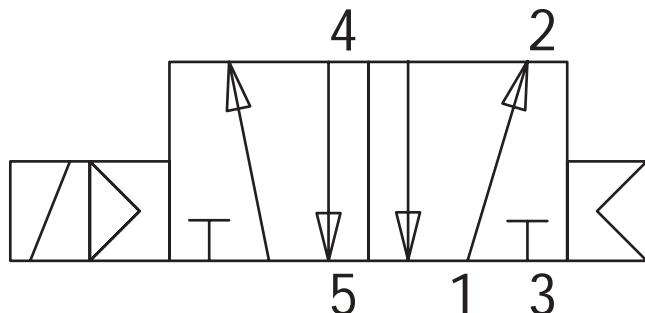
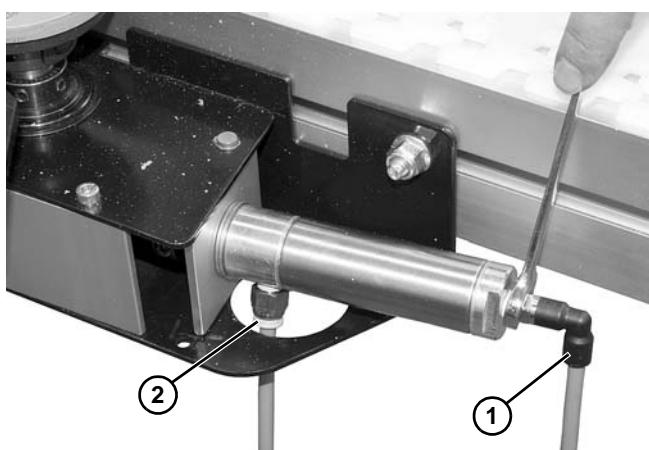

Figure 32
Figure 33
Dorner recommends using a 5 port, 2 way solenoid valve (**Figure 32**) to divert.
1. Connect Port 4 (**Figure 32**) of the 3 port, 2 way solenoid to the cylinders back port (**Figure 33, item 1**). Dorner fittings accept 1/4" outside diameter tubing standard.
2. Connect Port 2 (**Figure 32**) of the 3 port, 2 way solenoid to the cylinders front port (**Figure 33, item 2**). Dorner fittings accept 1/4" outside diameter tubing standard.